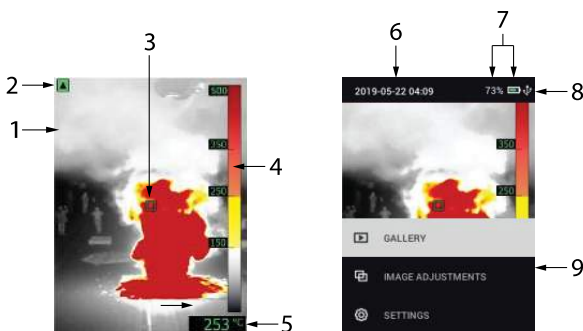

Figure 4.2 K1 Display Description
4. Temperature Scale: Set the sensitivity (gain) to LOW, HIGH, or AUTO. With the sensitivity set to LOW, the temperature range is 14 ~ 752°F (–10 ~ 400°C) and the low sensitivity range indicator appears (upper left of display), see **Figure 4.2, Display Description**. With the sensitivity set to HIGH the temperature range is 14 ~ 284°F (–10 ~ 140°C) and the low sensitivity range indicator switches OFF. Set to AUTO to have the camera decide which range is most suitable for any given image.